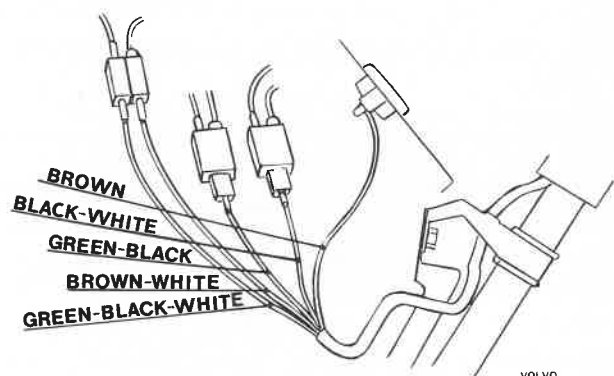

Fig. 52-22. Connecting the cable, flasher unit
4. Disconnect the cables for the flasher unit, see Fig. 52-22.
5. Connect the cables for the flasher unit as shown in Fig. 52-22.